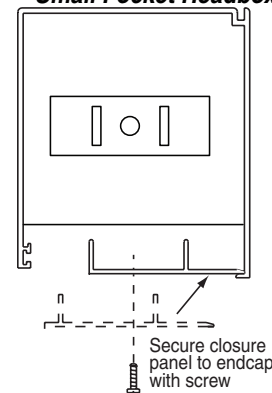

Figure 10
- ⑧ Attach small pocket closure (see Fig. 10).